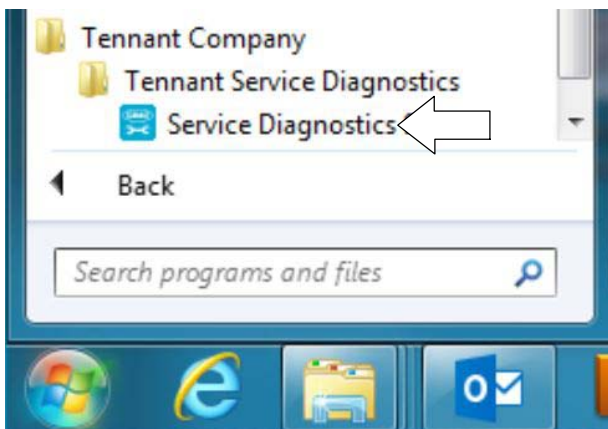

Fig. 13
2. Start the Service Software Application program “Service Diagnostics...”(Figure 4). Refer to Figure 13 for further details to access Software.
The software is pre-installed on your computer as shown below. The software application is titled “Service Diagnostics” (Figure 13).
7. After the service application software is installed on your computer, refer to figure 13 to access the program.
5. After the software is installed on your computer, refer to figure 13 to access the program.